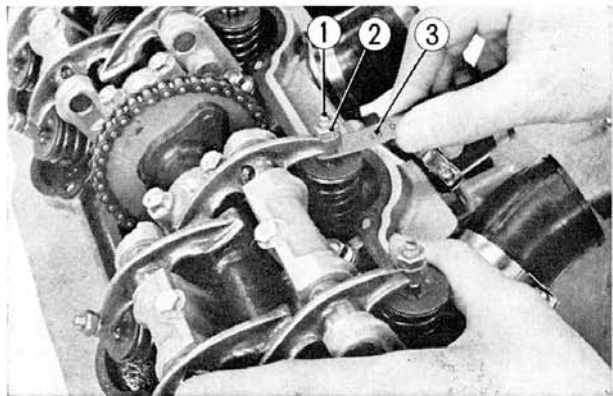

Fig. 3-57 ① Valve tappet adjusting screw
- b. Check the clearance of both valves by inserting the thickness gauge, provided in the tool kit, between the tappet adjusting screw and the valve stem. If clearance is correct, there will be slight drag or resistance as the gauge is inserted. If clearance is too small or large, adjustment is necessary. (Fig. 3-57)